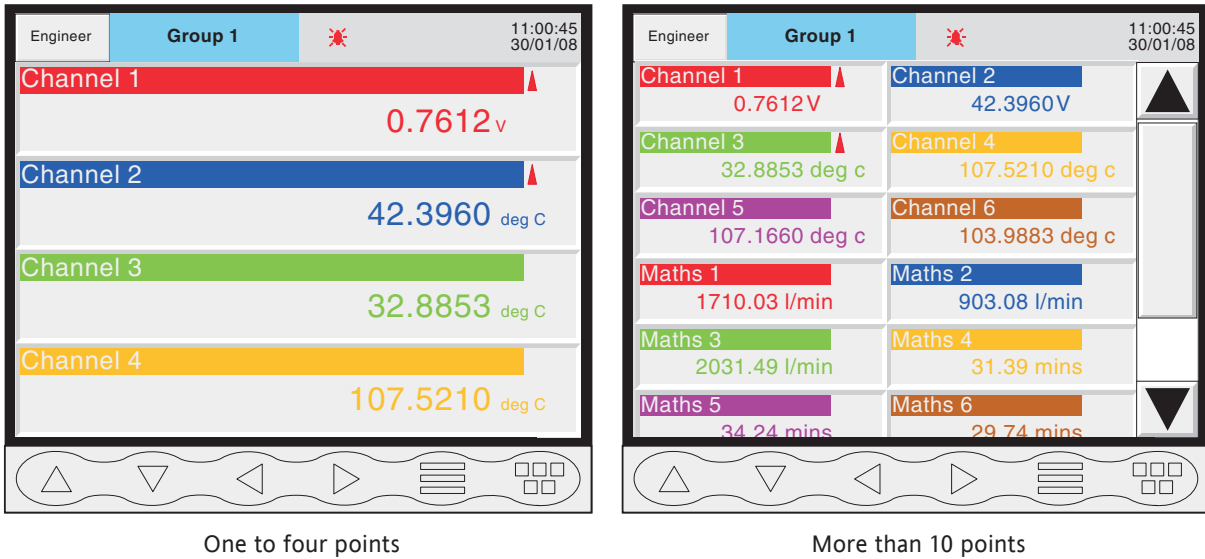

Figure 3.4.5 Numeric display mode examples
Entered from Horizontal bargraph mode by means of the down arrow key, or selected using the Root Menu 'Goto View' key, this display mode shows the Process Variable (PV) values as digital values. The format (which is automatically selected) is based on the number of channels in the display group. Figure 3.4.5 shows typical examples of the one and two column versions of this display mode respectively. Within each version, the process variable display areas expand or contract to fill the screen. The display for 5 to 10 points is similar to that shown for 'More than 10 points', below, but without the scrollbar.